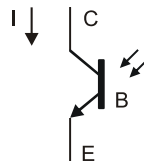

Figure 3-9 Infrared Transistor
The QRD1114 contains two components. The device inside it that controls how long the voltage takes to drop from around 5 V to 1.4 V is called an infrared transistor. The schematic symbol for the IR transistor is shown in Figure 3-9. While an LED is like a 1 way current valve, a transistor is more like a variable current valve. It's analogous to a faucet. The more you turn the handle, the more water comes out. With an infrared transistor, the more infrared light that strikes the base (B) surface, the more current (I) the transistor allows to pass through its collector (C) and emitter (E).